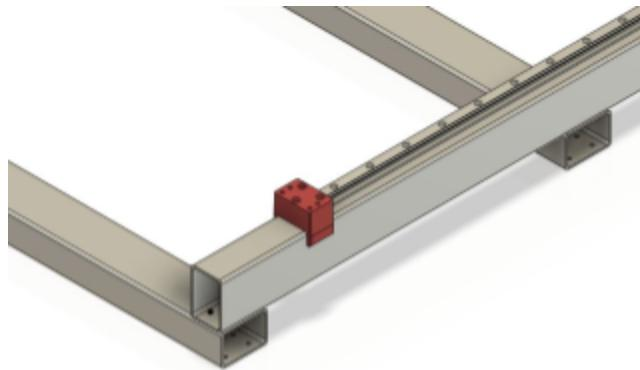

Figure 6.1
2. Position BK12 Mount against the HGR20 rail as shown in Figure 6.1.